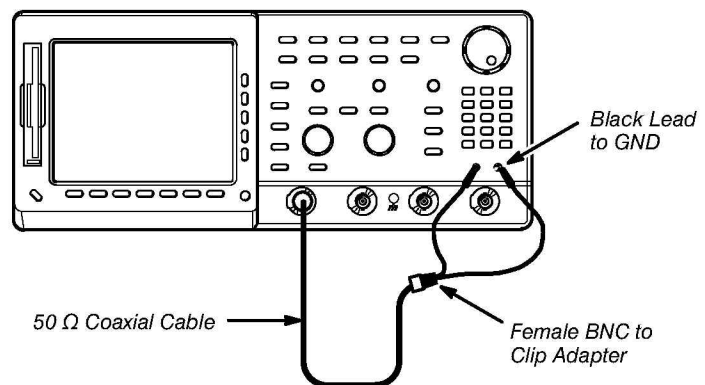

Figure 4-22: Initial Test Hookup
- Connect one of the 50 Ω cables to **CH 1**. See Figure 4-22.
- Connect the other end of the cable just installed to the female BNC to clips adapter. See Figure 4-22.
- Connect the red-coded clip on the adapter just installed to the **PROBE COMPENSATION SIGNAL** on the front panel; connect the black-code clip to **PROBE COMPENSATION GND**. See Figure 4-22.